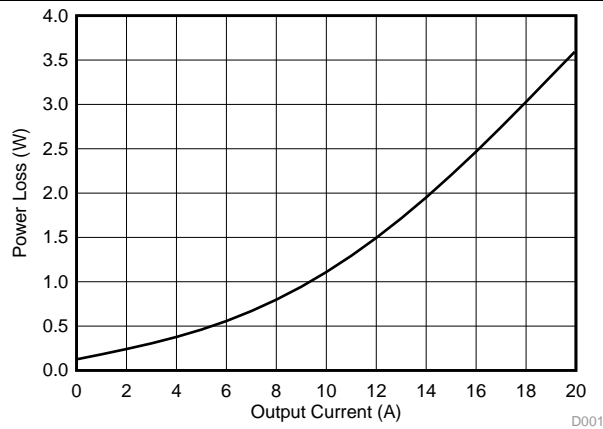

图 1. Power Loss vs Output Current
MOSFET centric parameters such as $R_{DS(ON)}$ and Q_{gd} are needed to estimate the loss generated by the devices. In an effort to simplify the design process for engineers, Texas Instruments has provided measured power loss performance curves. 图 1 plots the power loss of the CSD86336Q3D as a function of load current. This curve is measured by configuring and running the CSD86336Q3D as it would be in the final application (see 图 30). The measured power loss is the CSD86336Q3D loss and consists of both input conversion loss and gate drive loss. 公式 1 is used to generate the power loss curve.
The power loss curve in 图 1 is measured at the maximum recommended junction temperatures of 125°C under isothermal test conditions.
- Power loss at 18 A = 3.03 W (图 1)